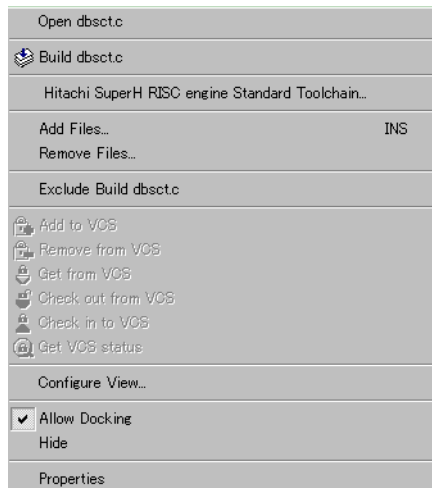
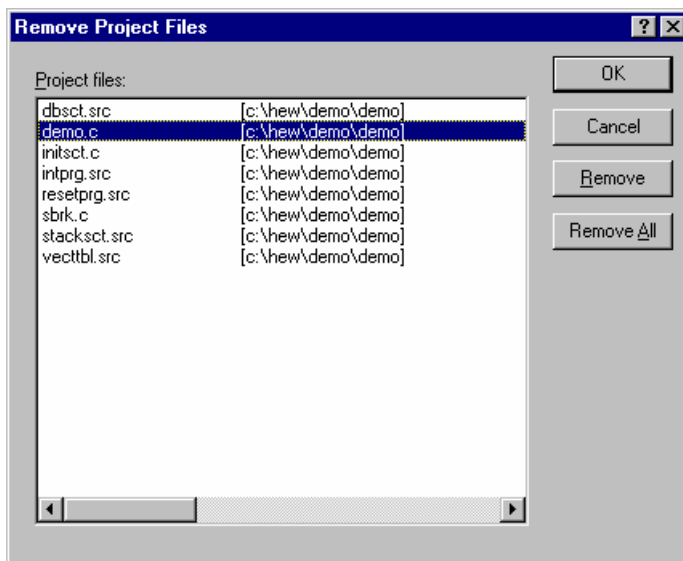

Figure 2.5: Projects Tab Pop-up Menu
Figure 2.6: Remove Project Files Dialog
1. Select [**Project->Remove Files...**], or select [**Remove Files...**] from the “Projects” tab’s pop-up menu in the Workspace window (see figure 2.5). The “Remove Project Files” dialog will be displayed (figure 2.6).
2. Select **[Exclude Build file]**, where <file> is the selected file, from the pop-up menu (figure 2.5). Then a red cross will be put on the file’s icon, and the file will be excluded from build.